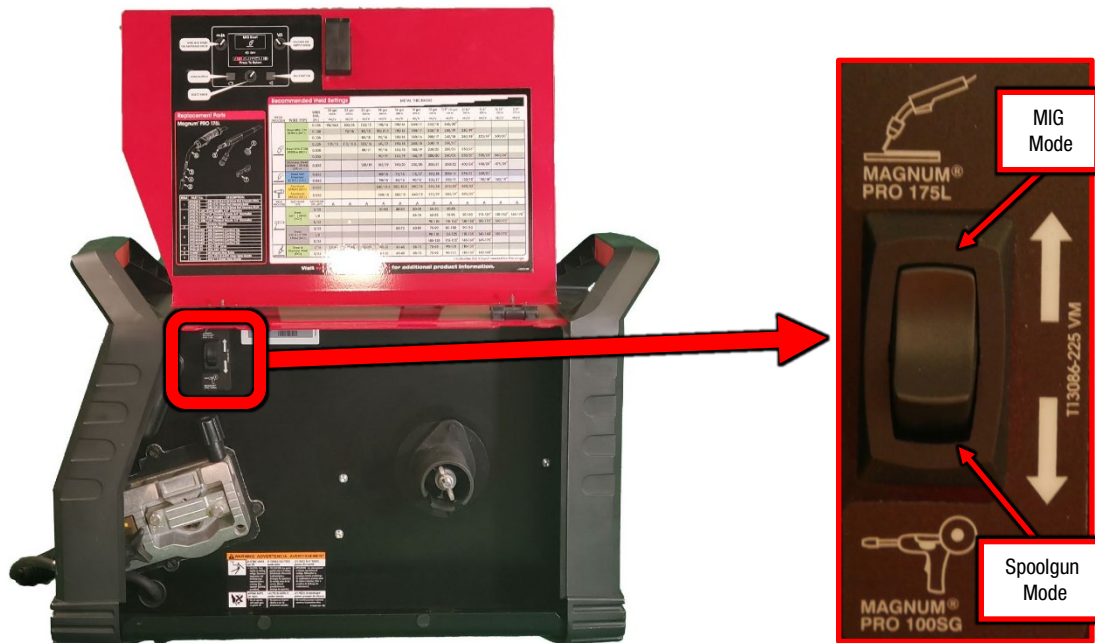

Figure F.1
1. For location of the Spoolgun Switch refer to Figure F.1.